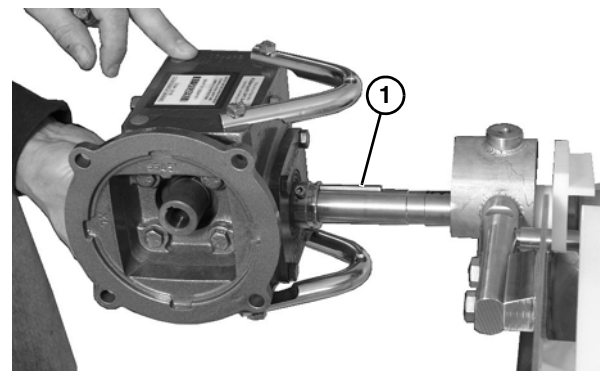

Figure 56
6. Slide assembly off the bearing spindle (**Figure 56**). Remove the key (**Figure 56, item 1**).